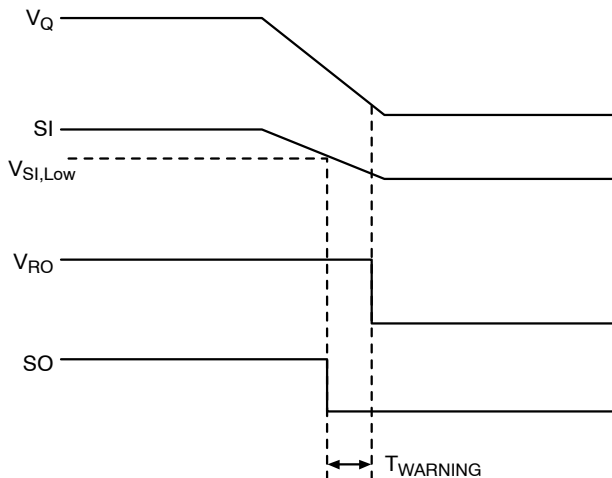

Figure 35. SO Warning Waveform Time Diagram
Figure 35 shows the SO Monitor timing waveforms as a result of the circuit depicted in Figure 34. As the output voltage (VO) falls, the monitor threshold (VSI,Low), is crossed. This causes the voltage on the SO output to go low sending a warning signal to the microprocessor that a reset signal may occur in a short period of time. TWARNING is the time the microprocessor has to complete the function it is currently working on and get ready for the reset shutdown signal. When the voltage on the SO goes low and the RO stays high the current consumption is typically 560  $\mu$ A at 1 mA load current.